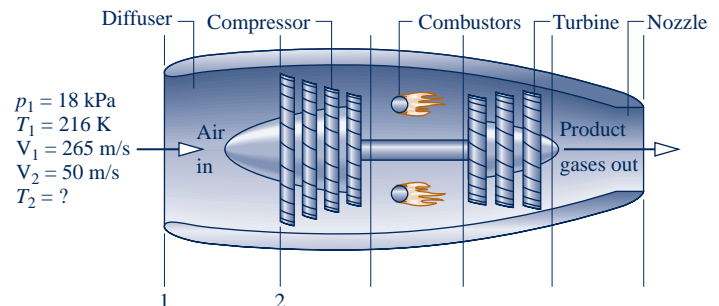

Fig. P6.163
- 6.163** As shown in Fig. P6.163, air enters the diffuser of a jet engine at 18 kPa, 216 K with a velocity of 265 m/s, all data corresponding to high-altitude flight. The air flows adiabatically through the diffuser, decelerating to a velocity of 50 m/s at the diffuser exit. Assume steady-state operation, the ideal gas model for air, and negligible potential energy effects.